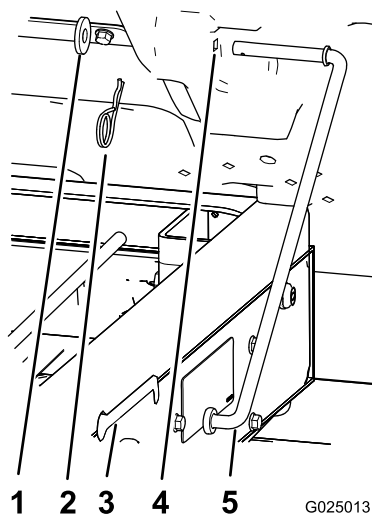

Figure 4
4. Remove the hairpin cotter and washer that secure the prop rod to the bottom of the bed (Figure 4).
5. Slide the prop rod forward to remove it from the bracket on the frame (Figure 4).